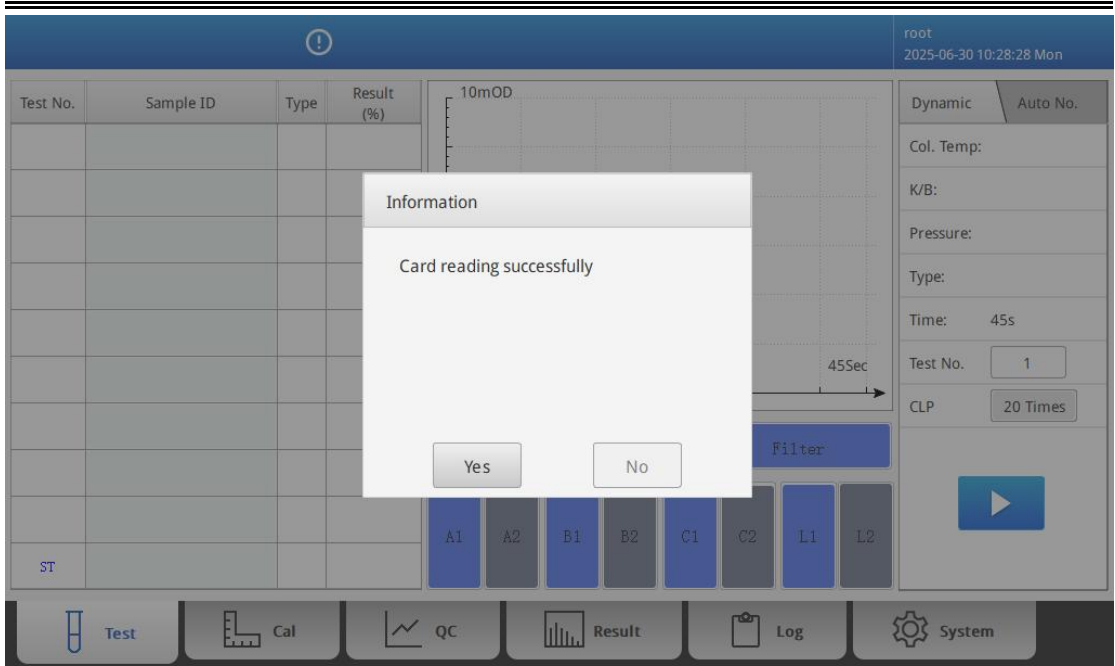
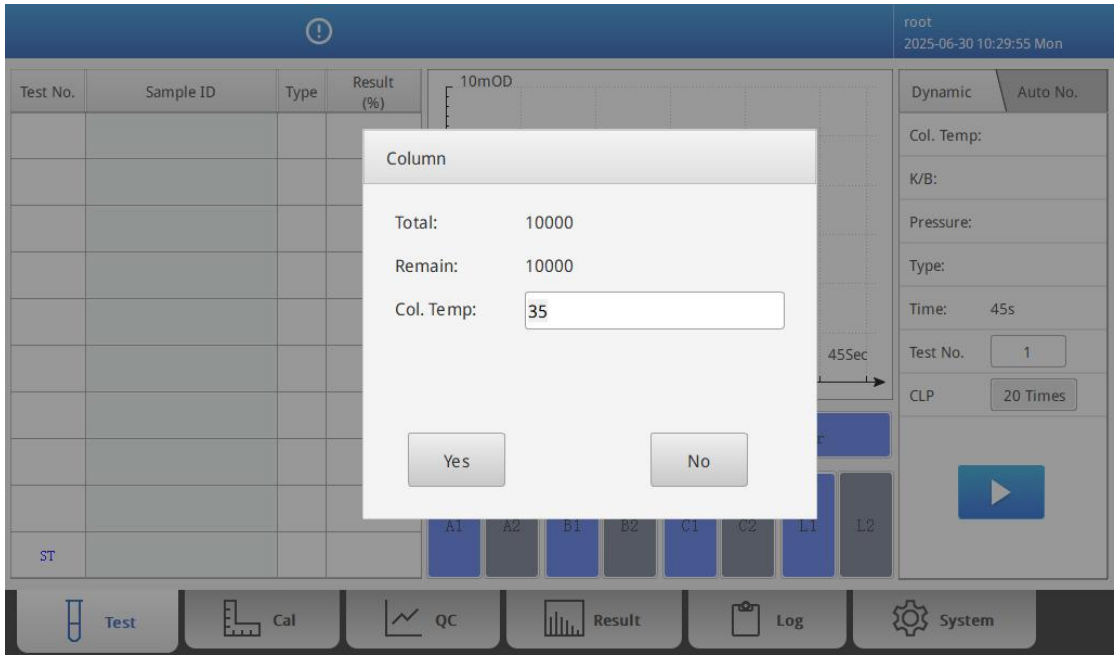

Fig 4-6 View of Column Installation Procedure(3)
Fig 4-7 View of Column Installation Procedure(4)
- 3) Take the RFID card out of the packaging box and swipe the card on the left side of the analyzer to read the new serial number. A prompt will show as **Fig 4-6**. Then press “**Yes**”. A prompt will show as **Fig 4-7**.